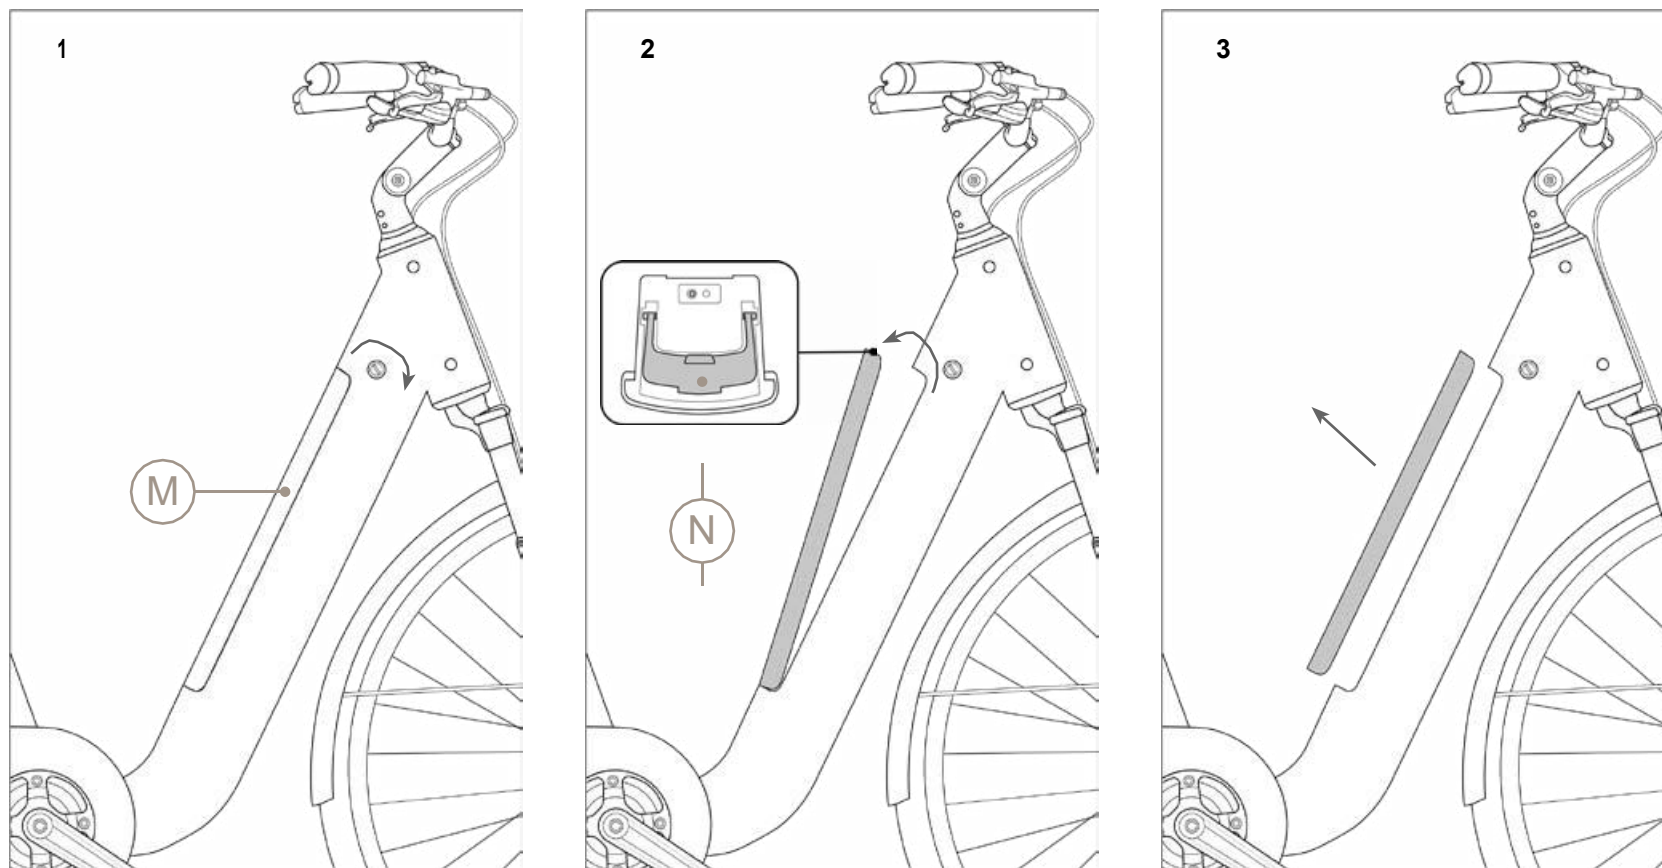

FIG. 10
The bicycle provides pedaling assistance via an electric motor powered by the battery located in the down tube of the frame (Ref. M - Fig. 10).
3. Release and lift the battery while holding down the locking lever (Ref. N - Fig. 10);